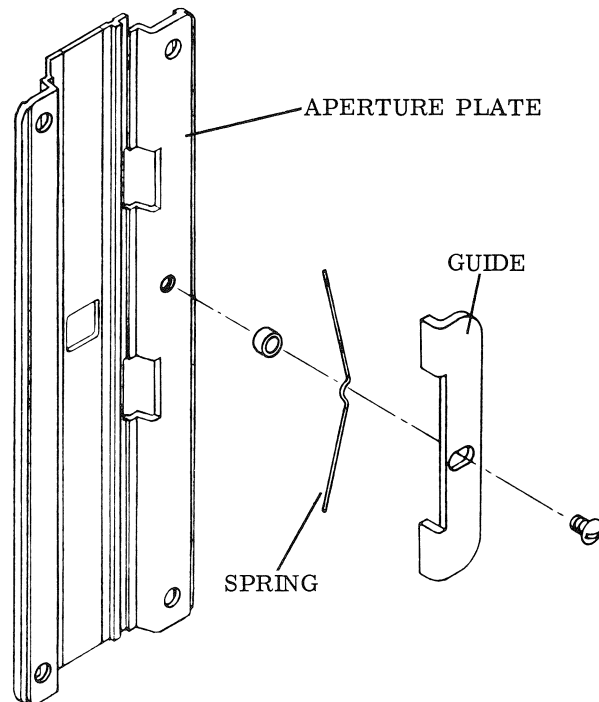

Figure 3-26. APERTURE PLATE ASSEMBLY
14. Aperture Plate Assembly (Figure 3-26)